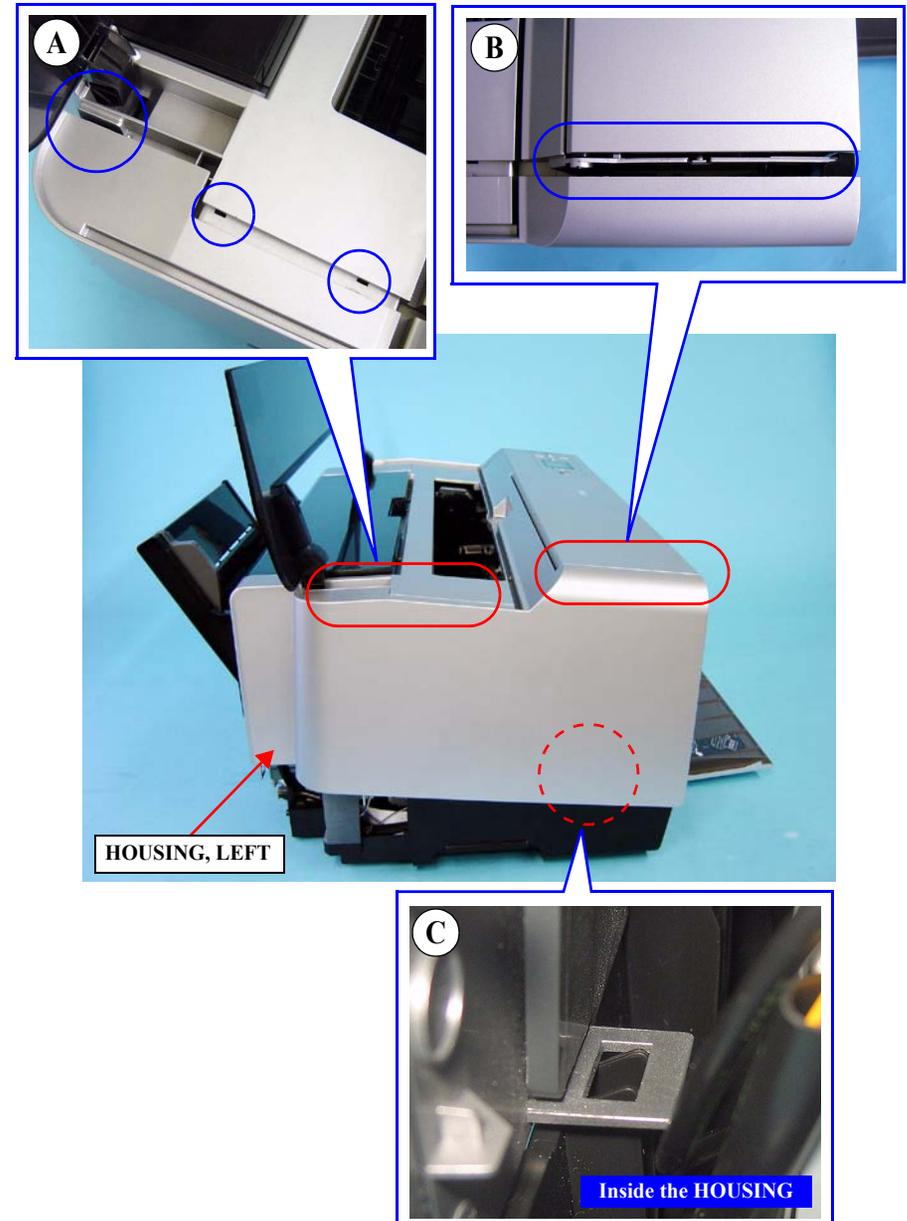

Figure 4-14. Removing the HOUSING, LEFT
3. Hold the front part of the HOUSING, LEFT and slightly lift it to release the tabs (A, B) on the upper part of the Housing and the hook (C) in the Housing as shown in *Figure 4-14*, and remove the HOUSING, LEFT.